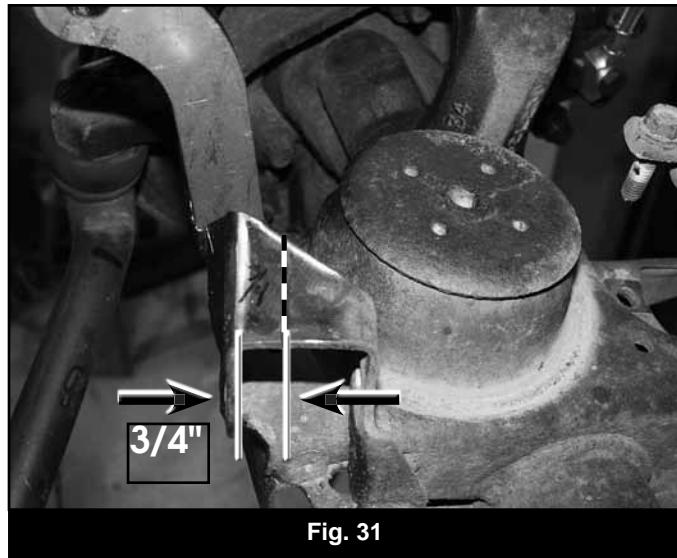

Fig. 31
73. Locate the top of the original stabilizer mount on the passenger's side of the axle. Measure from the front edge of the bracket toward the rear $\frac{3}{4}$ " and mark on the top of the bracket (Fig 31). Make a line along the top of the bracket, parallel to the front face at the $\frac{3}{4}$ " marked distance. This will be a reference line for installing the new stabilizer mount/support gusset.